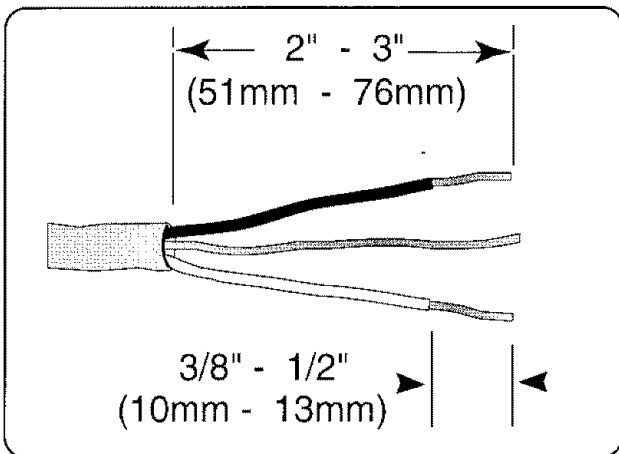

Figure 5
3. Remove 2" to 3" (51 - 76mm) of the outer casing of the household or field supply wiring as shown in Figure 5. Remove $\frac{3}{8}''$ to $\frac{1}{2}''$ (10 - 13mm) of the insulation from each wire as shown in Figure 5.